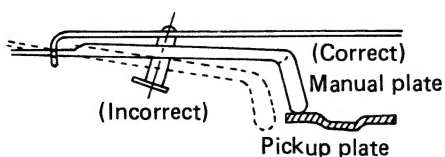

Figure 8.
- 1) The Manual Plate must not move off from the Pickup Plate when the tonearm is moved to the extreme right hand side (See Figure 8).